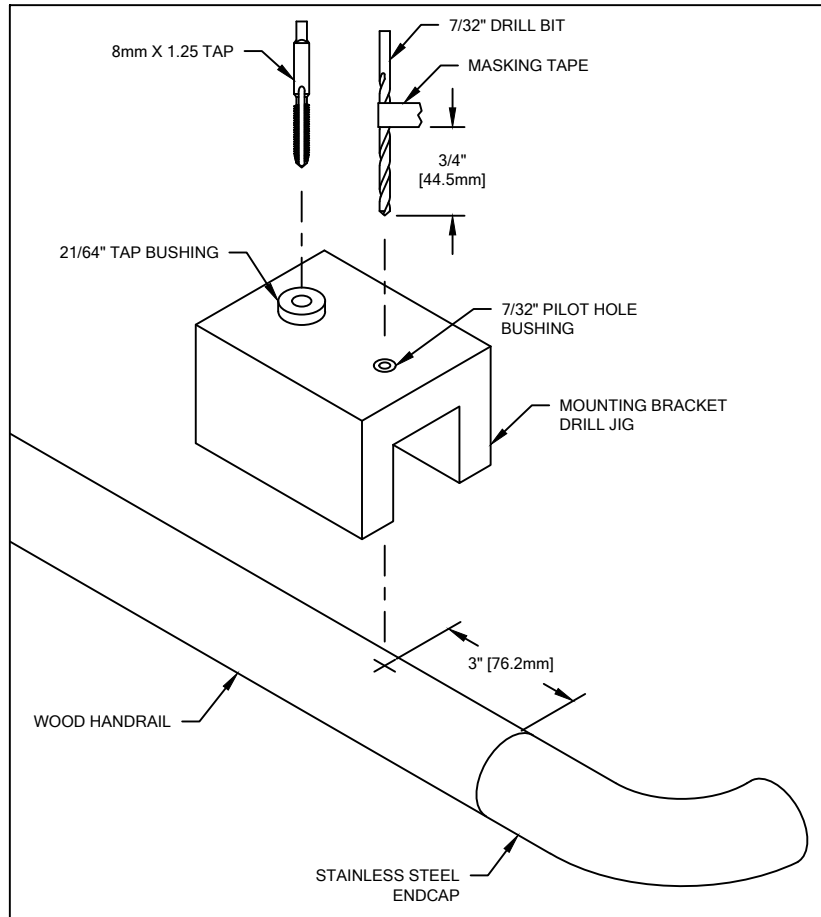

FIGURE 4.
- DRILL PILOT HOLES IN BOTTOM SURFACE OF HANDRAIL AS PER MOUNTING BRACKET DRILL JIG INSTRUCTIONS ON PAGE 6 (SEE FIGURE 4). MOUNTING BRACKETS ARE TO BE LOCATED AT A MAXIMUM OF 32" [812.8mm] O.C. AND MUST BE 3" [76.2mm] FROM END OF HANDRAIL AND 3" [76.2mm] FROM ONE END OF SPLICE. **CAUTION: BE SURE THE HANDRAIL DOES NOT ROTATE WHEN DRILLING PILOT HOLE.**